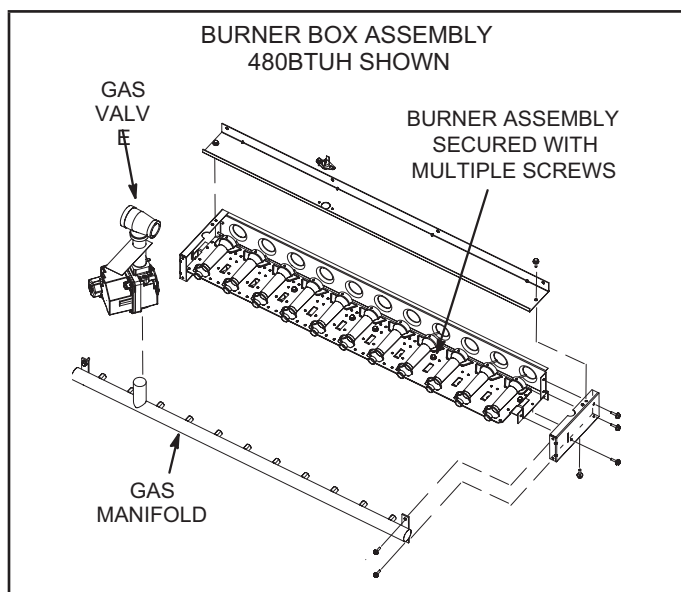

FIGURE 46
- 3 - Remove screws securing burner assembly to burner support and remove assembly. See FIGURE 46. Clean as necessary.